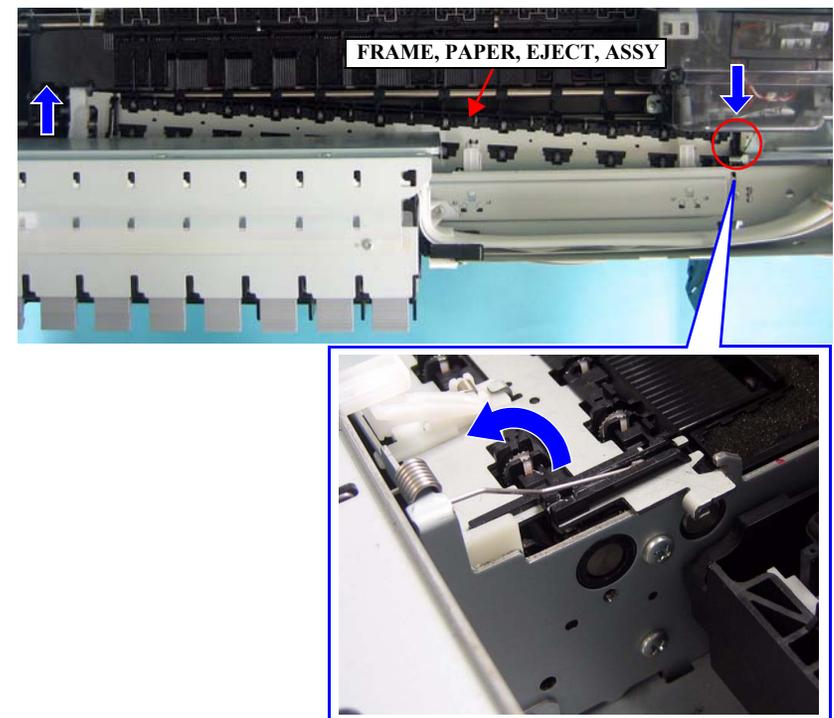

Figure 4-71. Tilting the FRAME, PAPER, EJECT, ASSY
9. Tilt the FRAME, PAPER, EJECT, ASSY in the direction shown in the *Figure 4-71*. Lift up the right side of the FRAME, PAPER, EJECT, ASSY slightly to pass it over the bump of the FRAME, ASSY, MAIN as shown in the *Figure 4-71*.